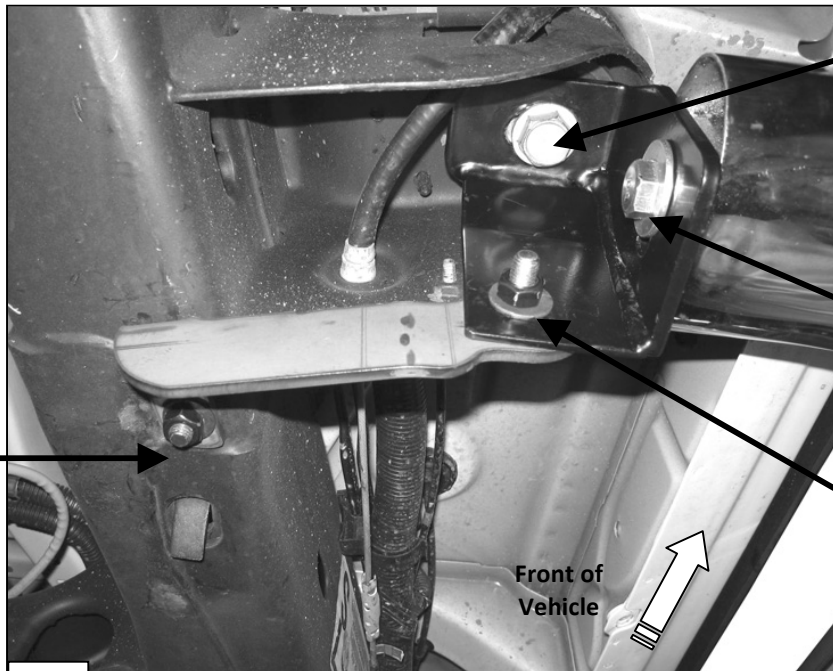

Fig 5
6. Partially attach driver side front Support Bracket to already inserted Bolt Plate using the included (1) 10mm Lock Washer, (1) 10mm Hex Nuts, and (1) 10mm Flat Washer. Attach opposite side of front Support Bracket to front Mounting Bracket using the included (1) 10mm x 30mm Hex Head Bolt, (1) 10mm Lock Washer, (1) 10mm Flat Washer, and (1) 10mm He Nut (**Figure 5**).